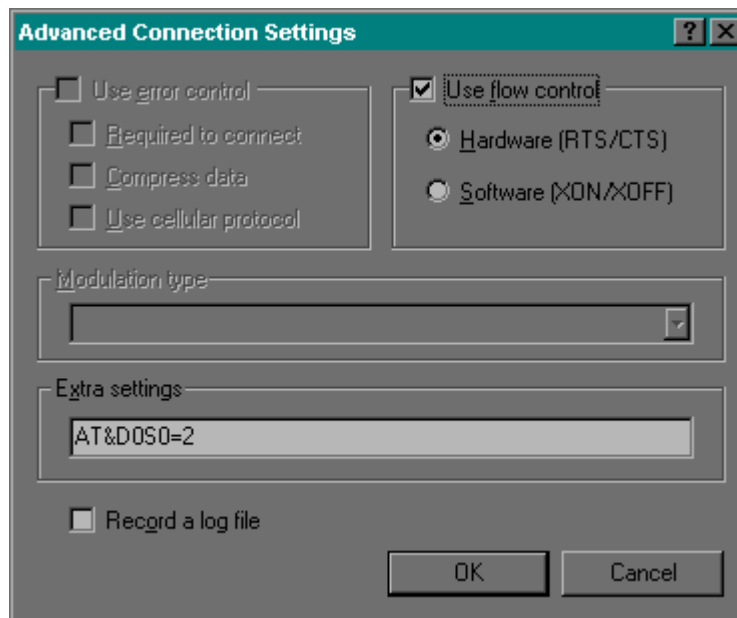

Figure 4-15. Advanced Connection Settings window
10. Click on OK and then click on Advanced. This will bring you to the Advanced Connection Settings window as shown in Figure 4-15. Setup your window with the same parameters as those shown in Figure 4-15.